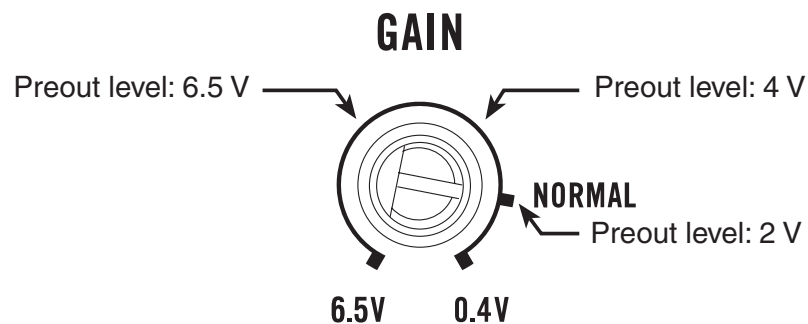

Fig. 1 Gain control of this unit
- If sound output is cut, the gain control of this unit may be improperly set. To ensure continuous sound output at increased volume of the head unit, set the gain control of the amplifier to a proper position according to the preout maximum output level of the head unit (Fig. 1). There is no need to decrease the volume of the head unit and too much output is controlled (Fig. 2, Fig. 3).